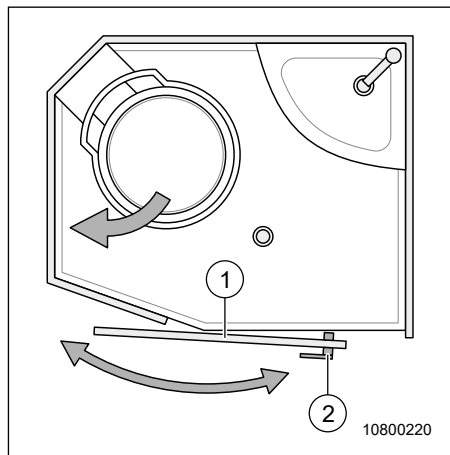

Fig. 72 Opening / closing the sliding door
1. To open, turn rotary knob (Fig. 72, Pos. 2) clockwise.
2. Open sliding door (Fig. 72, Pos. 1) to the left.
Close sliding door (Fig. 72, Pos. 1) to the right.